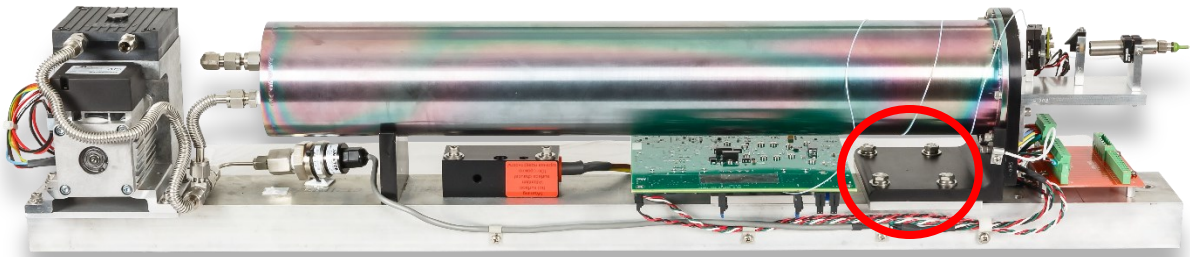

Figure 59: Location of Bolts Securing Herriott Cell
13. Locate the bolts securing the Herriott cell to the component rail as indicated in Figure 59.